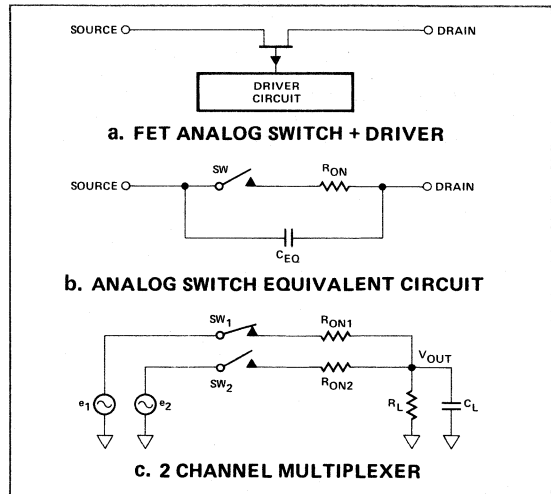

Figure 1. Essentials of an Analog Multiplexer
To introduce the concept of crosstalk, Figure 1 will be helpful. A multiplexer is made up of several analog switches connected as shown in Figure 1c. The basic analog switch may be constructed of a FET (JFET or CMOS) and a suitable driver which switches it OFF and ON. This is shown in Figure 1a. The equivalent circuit of an analog switch is shown in Figure 1b. When the ideal switch (SW) is closed the switch has an ON resistance R_{ON} , and when SW is open, the OFF impedance is determined by C_{EQ} . The two channel multiplexer shown in Figure 1c shows how signals from one channel can be coupled into the other channel. Theoretically, V_{OUT} should consist of e_1 modified by the resistor divider formed by R_{ON1} and R_L (assumes reactance of C_L is $\gg R_L$). However the capacitance of switch number two (C_{EQ2}) does couple some portion of e_2 into V_{OUT} . This is the simplest example of crosstalk.